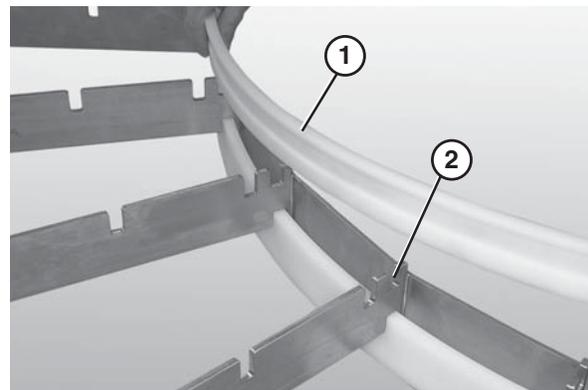

Figure 30
1. Insert the inside curve top wear strip (Figure 30, item 1) into the innermost slot (Figure 30, item 2) on the inside of the frame.